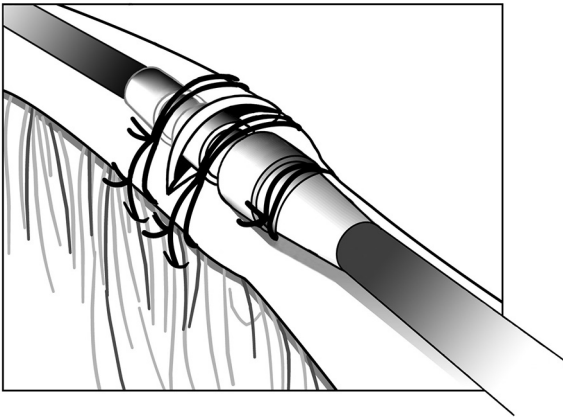

Figure 11. Example of suture sleeve, venous cutdown technique
3. Using the same groove, secure the lead and vein to the adjacent fascia (Figure 11 Example of suture sleeve, venous cutdown technique on page 25).